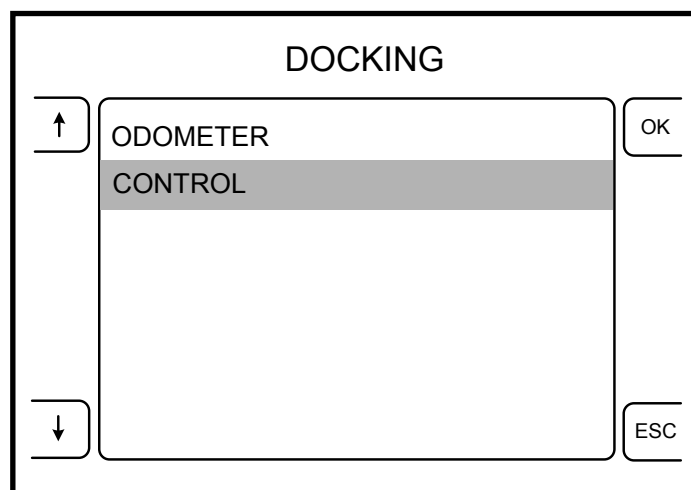

Figure 7: Sample Sub-Menu
5. Once the desired selection has been made the technician can access the various sub-menus within the technician menu. (see figure 7) Refer to **Technician Menu Options** for a list of available menus and diagnostic functions.